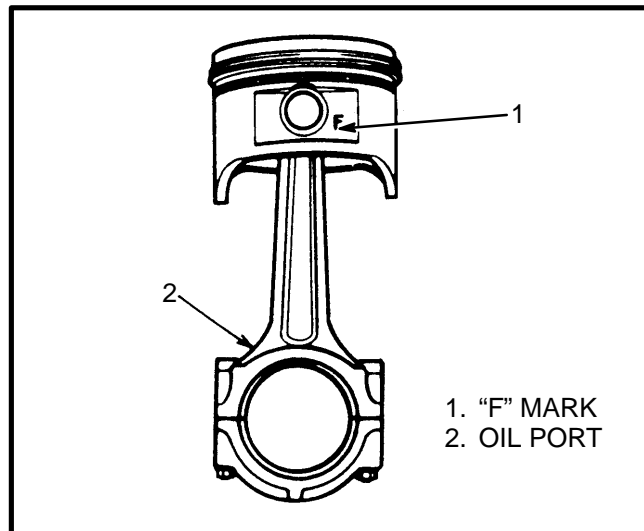

FIGURE 31. CONNECTING ROD AND PISTON
1. Align the oil port on the large end of the connecting rod with the “F” mark on the piston. See FIGURE 31.